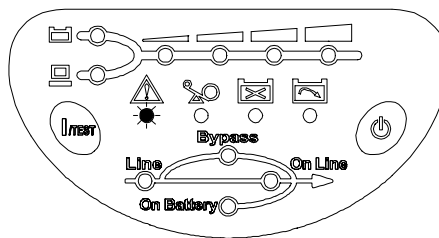

Fig 3-2 Site Fault
- After the UPS is plugged in , check the site wiring fault LED ( fault LED in “**STANDBY mode**”). If the UPS is plugged into an improper wired AC power outlet, this LED flashes. Shown as fig 3-2.